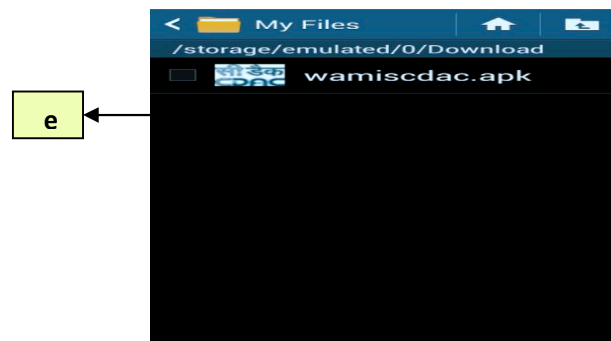

Fig 1.2.1
- e. Click on wamiscdac icon (Fig 1.2.1).